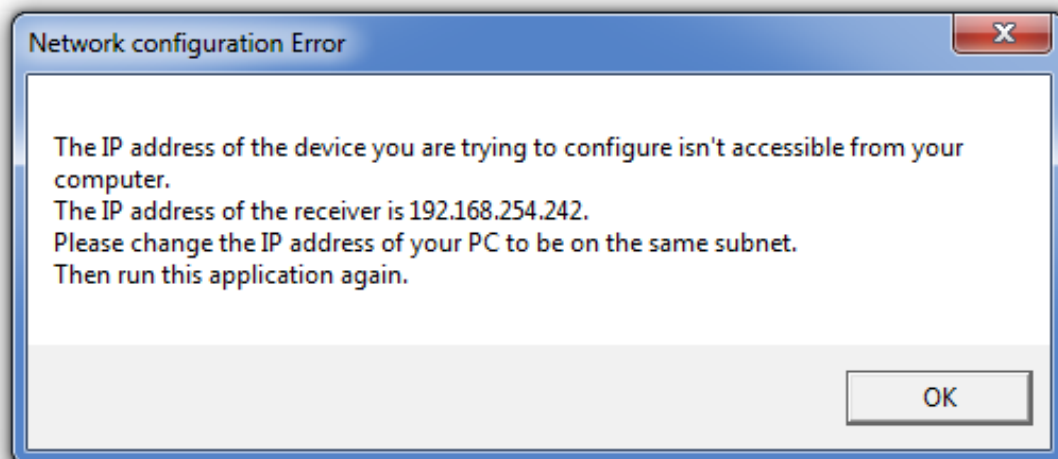

Figure 3 – Change IP Address Screen
- 3- You must also ensure that the network settings of the S300 make it accessible from the Windows management PC. The IP address of the device and the IP address of the management station must reside on the same subnet, or there must be a route that connects both of them through a router. If this is NOT the case, you will be prompted with the Change IP Address Screen as shown below in Figure 3 – Change IP Address Screen. You will need to change the IP address of your management PC to be on the same subnet as the receiver (in this case, change your PC IP address to: 192.168.254.xxx, where xxx is not equal to 242)